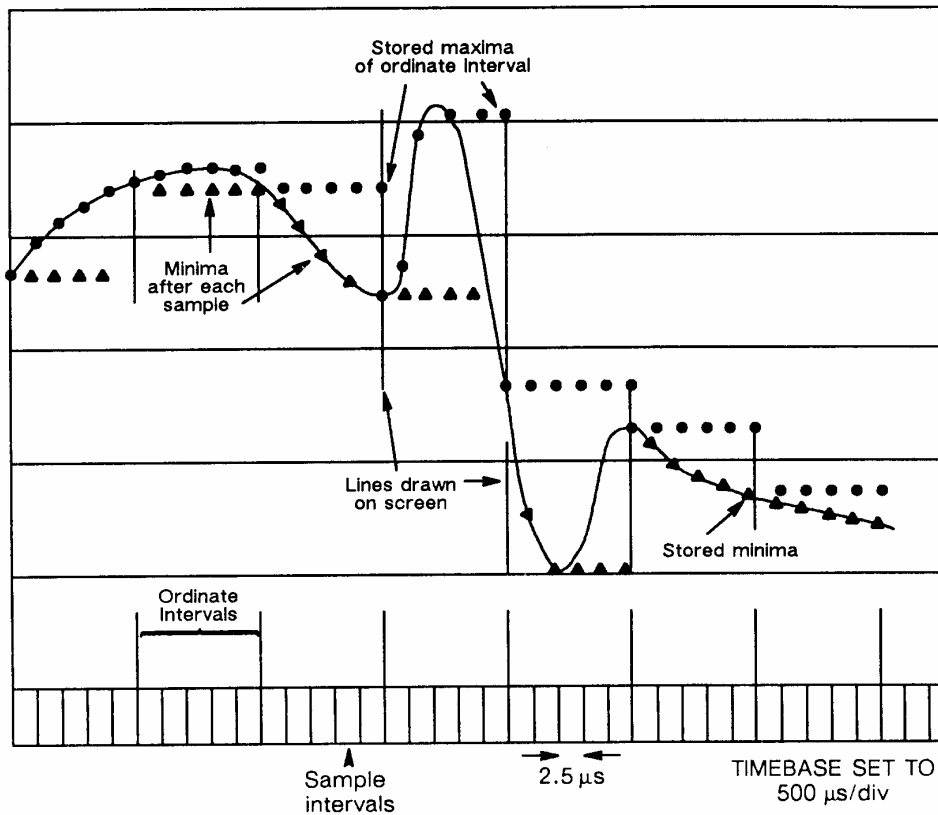

Fig. 4-13 Oscilloscope display generator process - AB2/2
89. The maximum and minimum latch outputs from IC7 and IC8 connect to the A and B inputs respectively of the data selector formed by IC10 and IC11. When enabled by pin 15 being taken low by the SCOPE TIMEBASE signal, the data selector connects the inputs to the data bus. Since SCOPE TIMEBASE occurs at the ordinate rate (which is variable and depends upon timebase setting), only the peak and trough values found during the preceding ordinate period are passed on. When IC26b QB goes low the peak value is output and when it returns high the trough value is output. These data are sent into two consecutive locations in display memory IC12, and write address counters IC18a and IC17 are incremented. IC7 and IC8 are both reloaded at this time with the current sample latched from IC2, ready for comparison with the next sample. Fig. 4-13 shows the manner in which values are stored and the lines are drawn on the screen to reproduce the waveform.